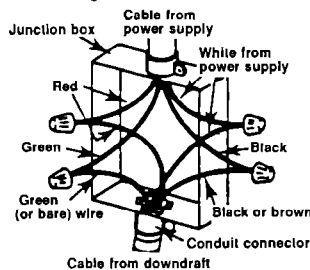

Figure 2
2. Separate the white wires from the green (or bare) wire that extends out the end of the appliance cable. See Figure 2.
4. Connect the black (or brown) wires together and the red wires together with wire connectors. See Figure 2.